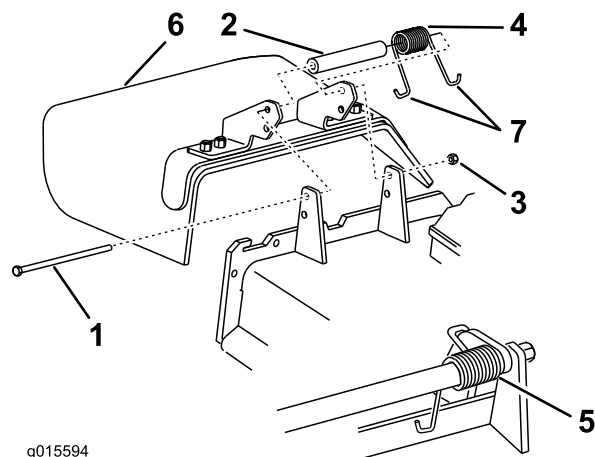

Figure 98
1. Remove the locknut, bolt, spring, and spacer holding the deflector to the pivot brackets (Figure 98). Remove the damaged or worn grass deflector.
Note: Make sure one J end of the spring is installed behind the deck edge before installing the bolt as shown in Figure 98.
3. Install the bolt and the nut. Place one J hook end of the spring around the grass deflector (Figure 98).